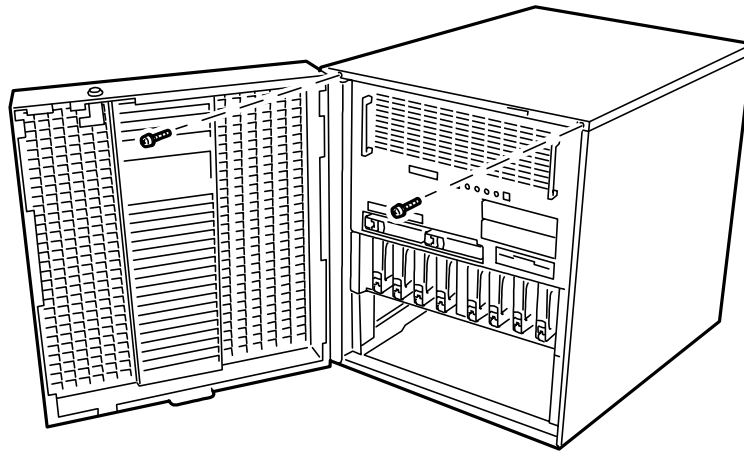

Figure 4-1. Removing the Top Cover Thumbscrews
5. The top cover is secured from the front edge of the tower cabinet with two thumbscrews. Remove the two thumbscrews, see Figure 4-1.
3. Place the cover on top of the tower cabinet and secure it with two thumbscrews, see Figure 4-1.